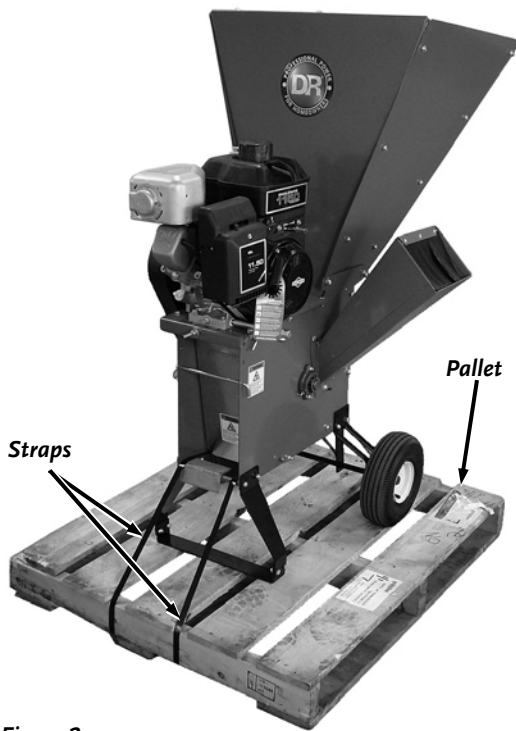

Figure 2
2. Cut the Straps that are securing the machine to the Pallet (**Figure 2**).